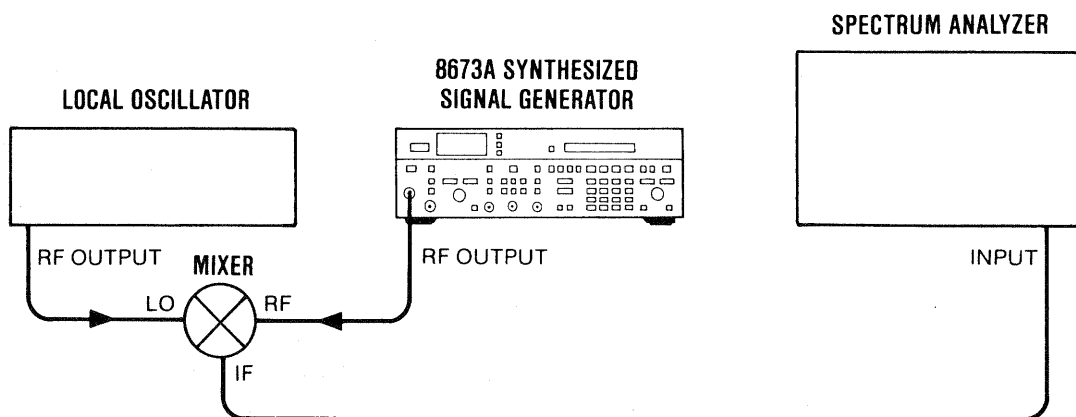

Figure 4-7. Single-Sideband Phase Noise Test Setup
2. Connect the equipment as shown in Figure 4-7.